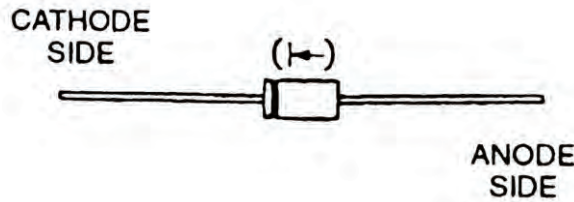

Figure 1. Diode Identification.
6. Set multimeter for DC volts and connect positive lead to terminal 11 of load measuring unit (WP 0062, Figure 1, Item 26) and negative lead to terminal 12.
8. Load measuring unit (26) must be replaced if difference is more than ± 1.2 VDC.
10. Remove multimeter from load measuring unit (26) terminals.
1. Remove load measuring unit (WP 0062, Figure 1, Item 26) (Removal).
2. Install new load measuring unit (26) (Installation).
WP 0043, Figure 1, Item 71
10. Connect positive lead of multimeter to cathode side and negative lead to anode side of each diode (CR1, CR2, CR3, and CR4). Refer to Figure 1. Note ohms indication on multimeter for each diode.